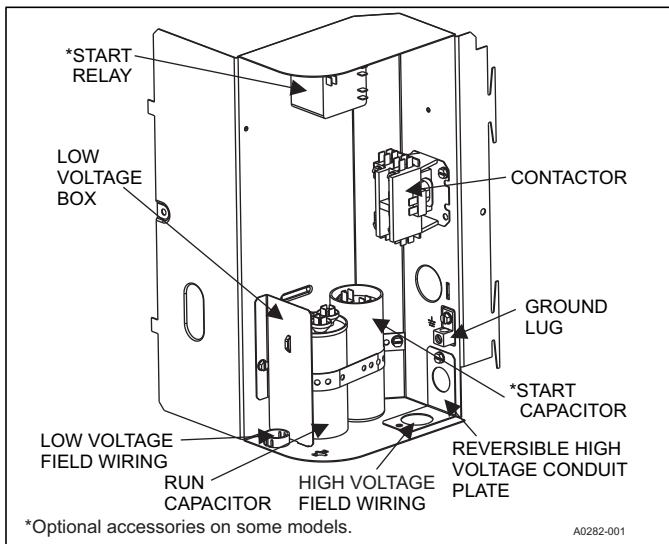
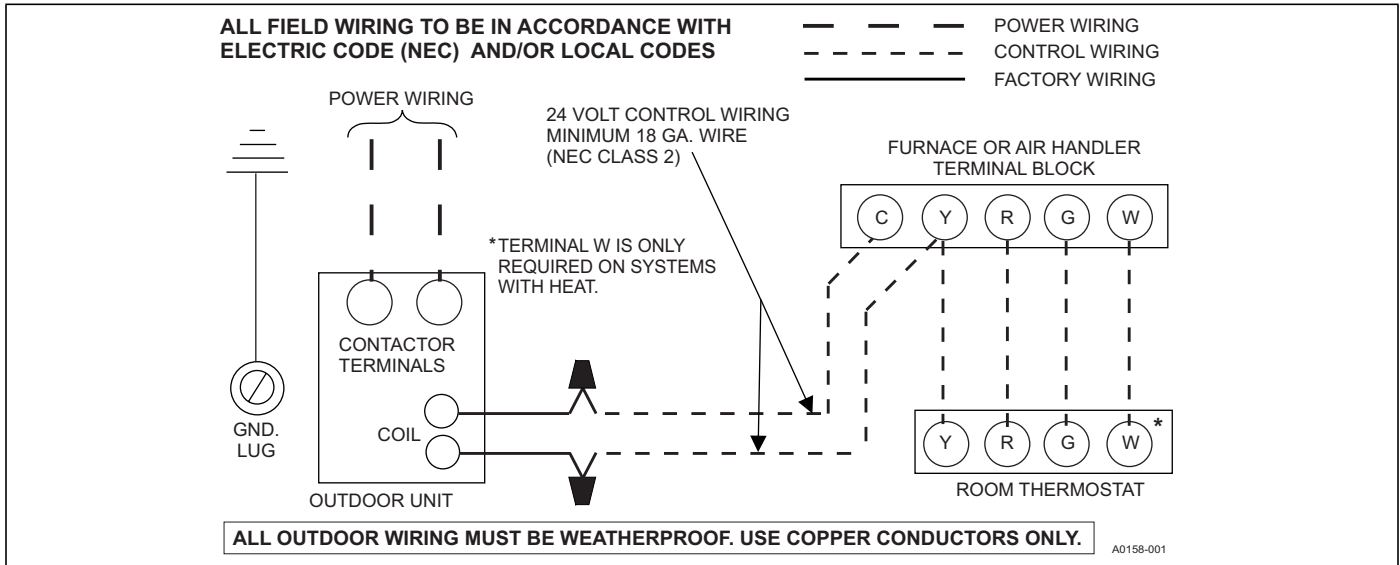

Figure 13: Outdoor unit control box (single-phase - smaller base)
Figure 16: Typical field wiring (air handler/electrical heat) (single-phase)
1. Route low-voltage wiring into the bottom of the control box as shown in Figure 13, 14, or 15. Make low-voltage wiring connections inside the low-voltage box as shown in Figure 16.